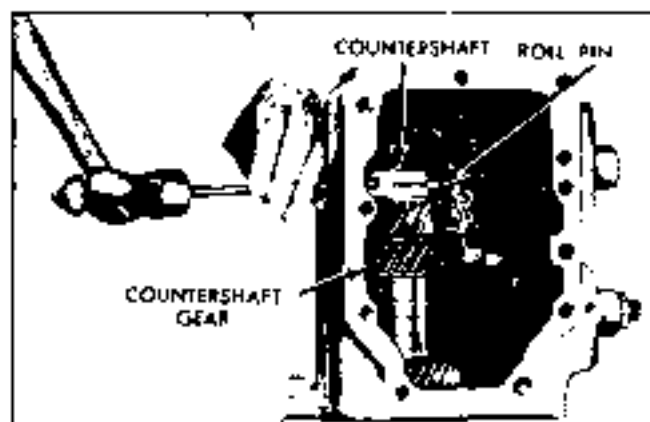

Fig. 7A-6 Removing Countershaft Retaining Pin
24. Using a brass drift, drive reverse idler gear shaft out of rear of case (Fig. 7A-11) and lift gear and thrust washers from case.